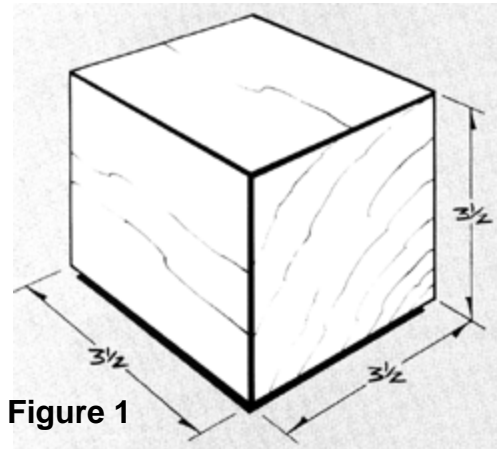

Figure 1
1. Start with a 3-1/2" x 3-1/2" x 3-1/2" block of hard maple (**Figure 1**).